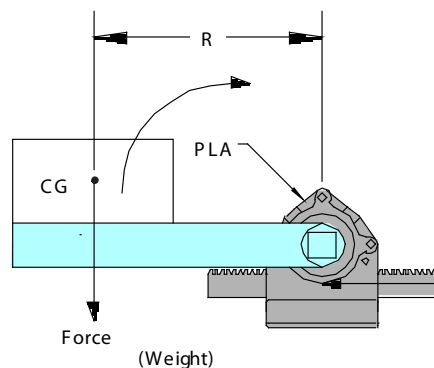

Fig. 2
**Sample Calculation:** On a system similar to Fig. 2 utilizing a Series 2A unit having a gear pitch radius, where  $r = 1.5$  in., and the force, 100 lb, on the arm at a radius where  $R = 36$  in. The theoretical tooth load would be as follows: